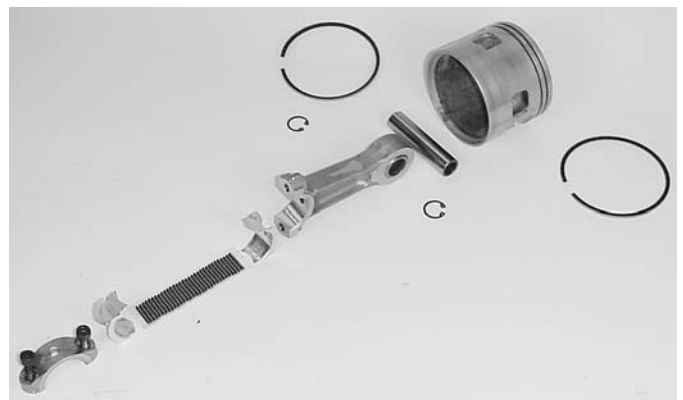

Fig. 27
7. Use a snap ring pliers on the retaining rings and remove the wrist pin (Figure 27).